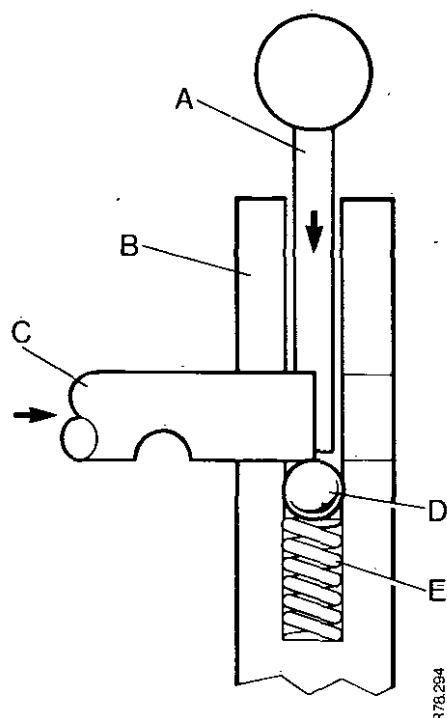

FIGURE 93. INSTALLING DETENT BALL
23. Enter the first/reverse selector rod into the front end plate. Use the tool shown in Figure 93 to install the detent ball as follows: